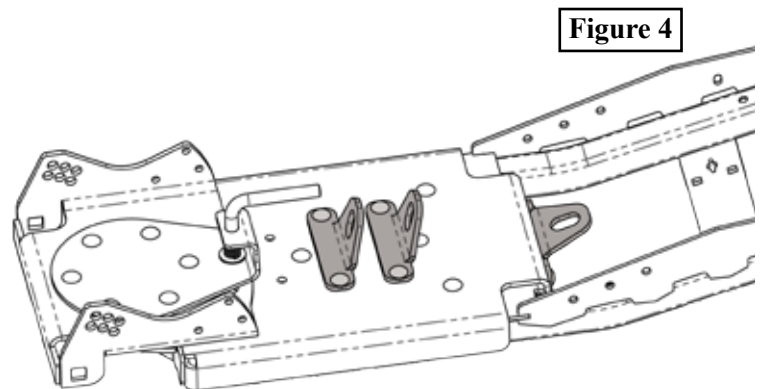

Figure 4
5. The lift hook can be relocated if it gives a better lift angle from your machine, 3 options are shown in **Figure 4**.